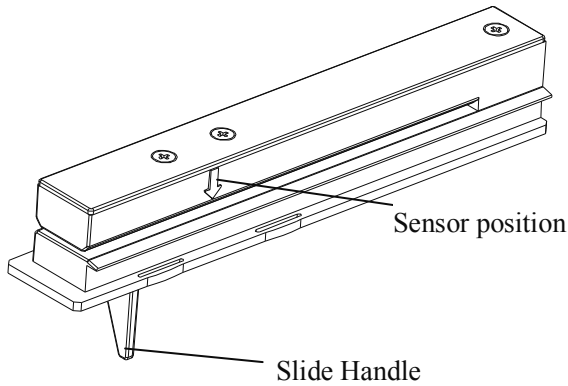

Figure 8
6. Move the media sensor to the appropriate position ( Figure 8 ) :